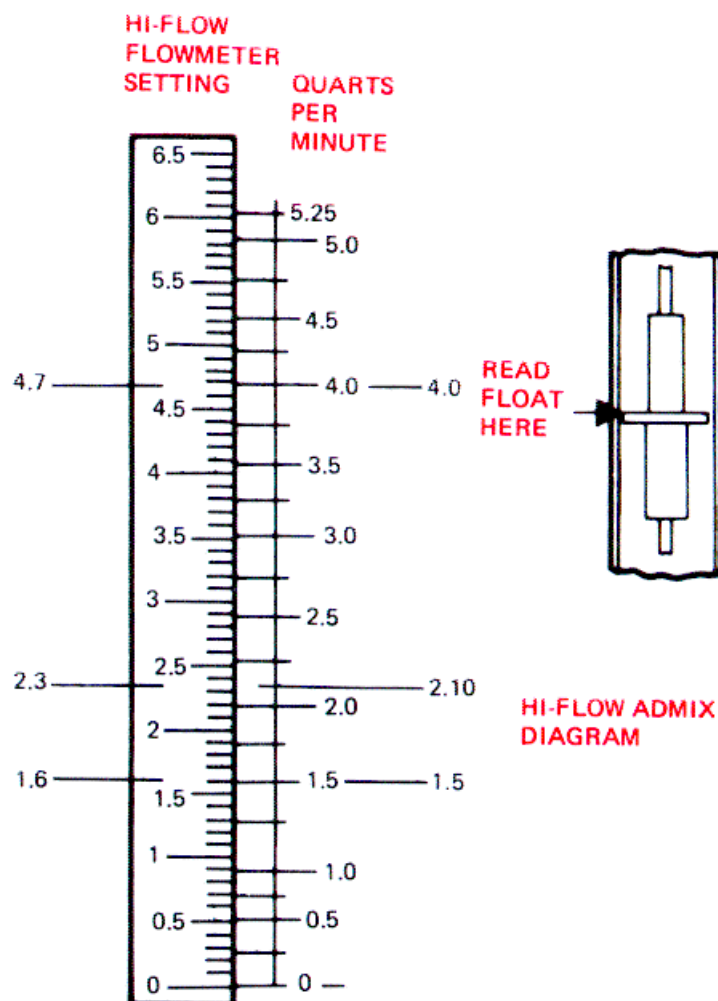

Figure 2-7. Hi-Flow Admix Diagram.
2. QUARTS PER MINUTE 60 seconds per minute - (A) $\frac{28.5}{\text{SECONDS PER BAG}}$ = (C) $\frac{2.10}{\text{BAGS PER MINUTE}}$ Since there should be one quart of solution for each bag, (C) is also quarts of solution per minute = (C) $\frac{2.10}{\text{QUARTS PER MINUTE}}$
3. FLOWMETER SETTING (HI-FLOW) Find (C) on the quarts scale of the Hi-Flow Admix Diagram (fig 2-7) Go left to find setting on the flowmeter scale <div style="text-align: right; margin-top: 20px;"> <div style="border: 1px solid black; padding: 5px; display: inline-block;">2.3</div> HI-FLOW ADMIX SETTING </div>
Find (F) on the quarts scale of the Hi Flow Admix Diagram (fig 2-7) go left to find new setting on the flowmeter scale <div style="text-align: right; margin-top: 20px;"> <div style="border: 1px solid black; padding: 5px; display: inline-block;">1.6</div> HI-FLOW ADMIX SETTING </div>